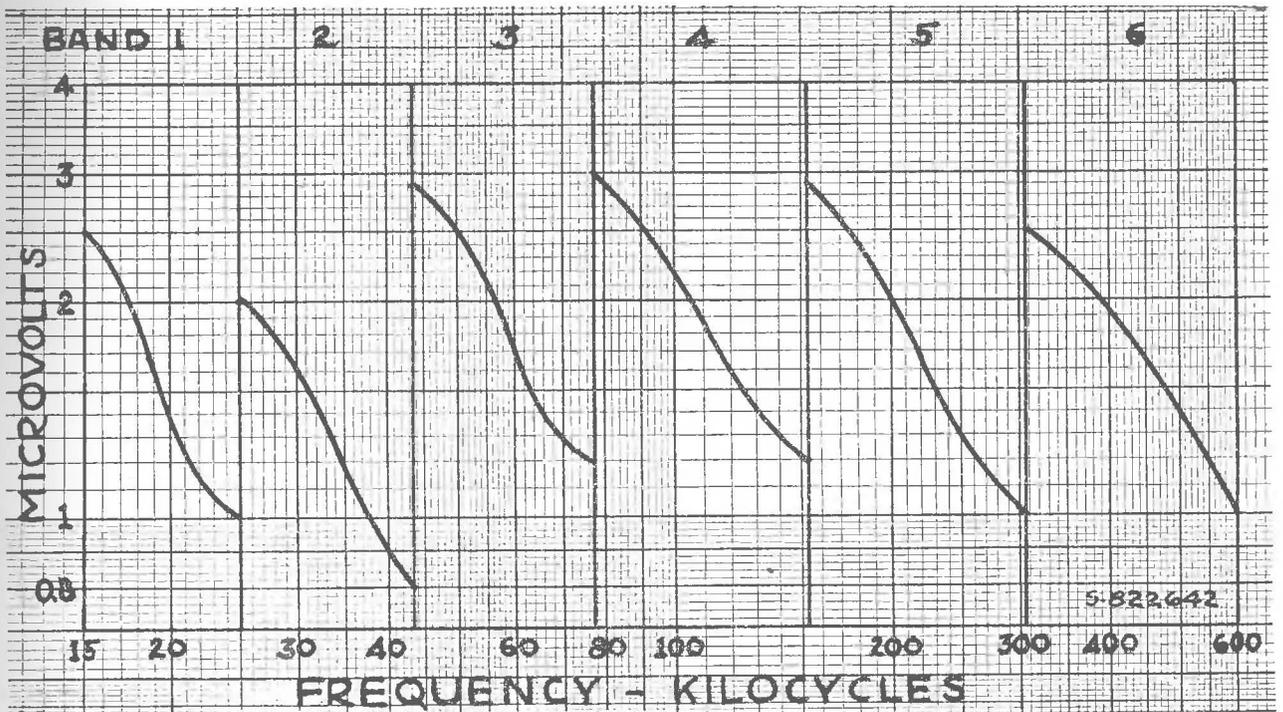

Figure 8—Sensitivity (microvolts for 6/05 M.W. Signal/Noise Ratio)
- 11.1-1 Figure 8 gives approximate normal sensitivities for the various bands. The procedure and conditions of measurement are as follows: with "AVC-Off", "Audio Tuning-Off", and with a 600-ohm non-inductive resistance at receiver output terminals, pure CW is applied from a signal generator to the receiver input through a standard dummy antenna (200 mmf., 20 microhenries, 25 ohms). The output beat note is held at 1000 cycles (receiver tuned 1 kilocycle higher than signal). The "Regeneration" control is set at standard oscillation (increased beyond critical oscillation to the point where the output drops 3 db or from 2.68 V. in 600 ohms at critical oscillation to 1.9 V. at standard oscillation). The "Sensitivity" control is set